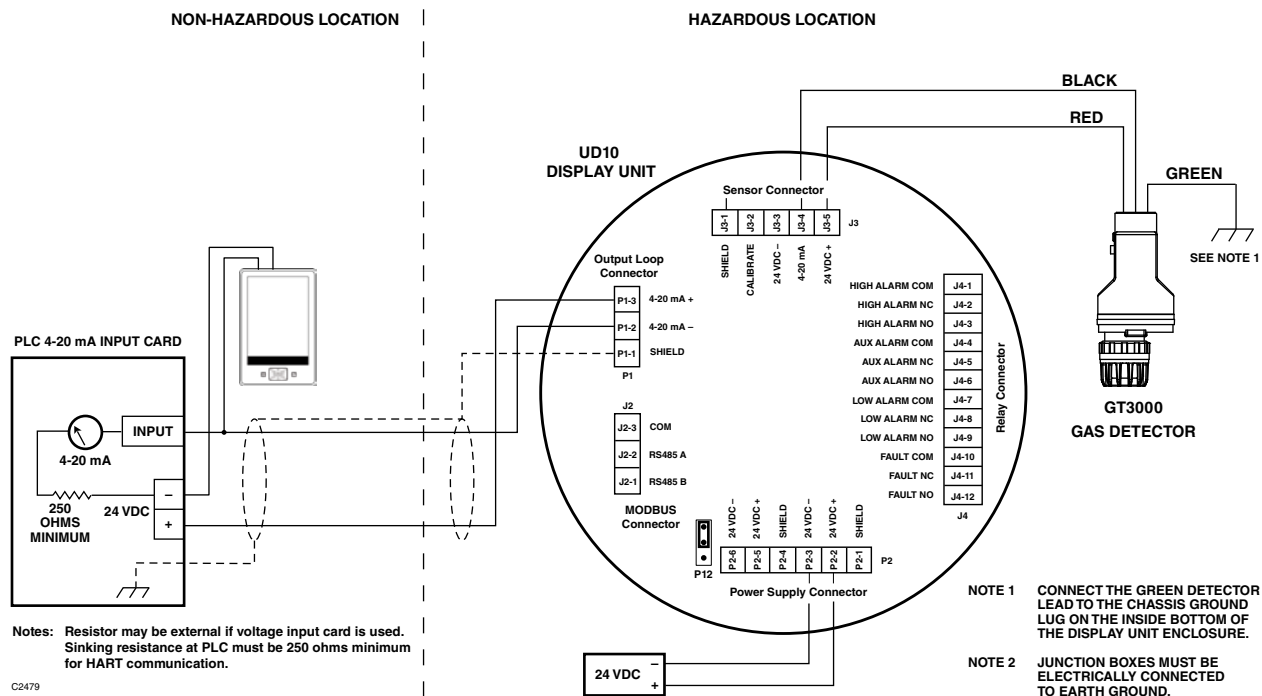

Figure 12—GT3000 Wired Directly to the UD10 Display Unit / UD10 Wired to PLC with 4-20 mA Isolated Sourcing Output
*If ripple on the main power source causes interference with the HART function, the use of an isolated power source (Figure 12) is recommended for best HART performance.*